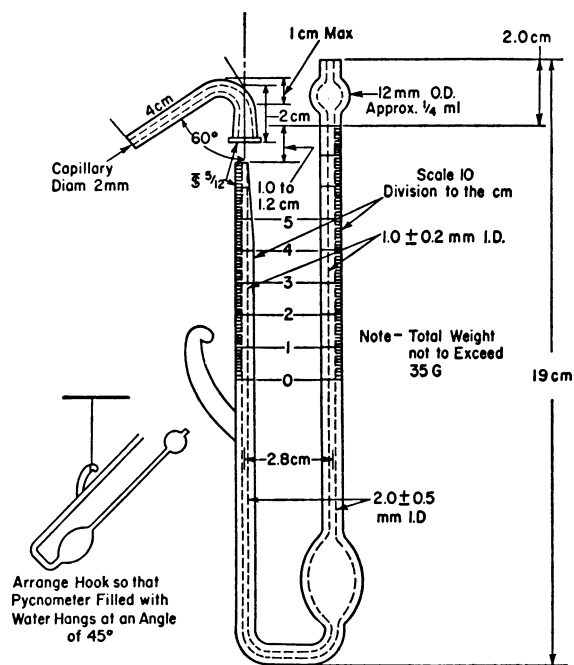

FIG. 1 Pycnometer
6.1 *Pycnometer*⁴—A side-arm type of pycnometer conforming to the dimensions given in Fig. 1 and made of borosilicate glass. The weight shall not exceed 35 g without the side arm.